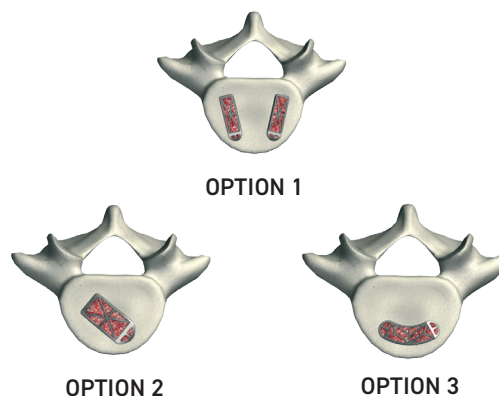

Figure 15
- ▲ Although surgical techniques will vary from physician to physician, three commonly found implant orientations are illustrated at right (Fig. 15).